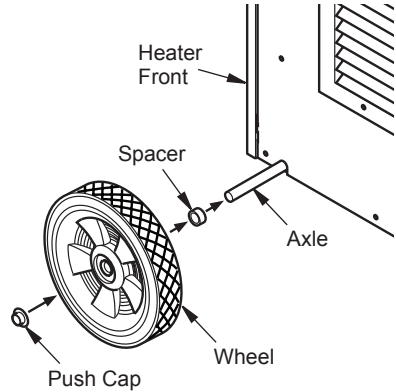

Figure 5 - Installing Axle, Spacers and Wheels
3. Slide one wheel and spacer onto axle then carefully slide axle through heater body as shown in Figure 5.